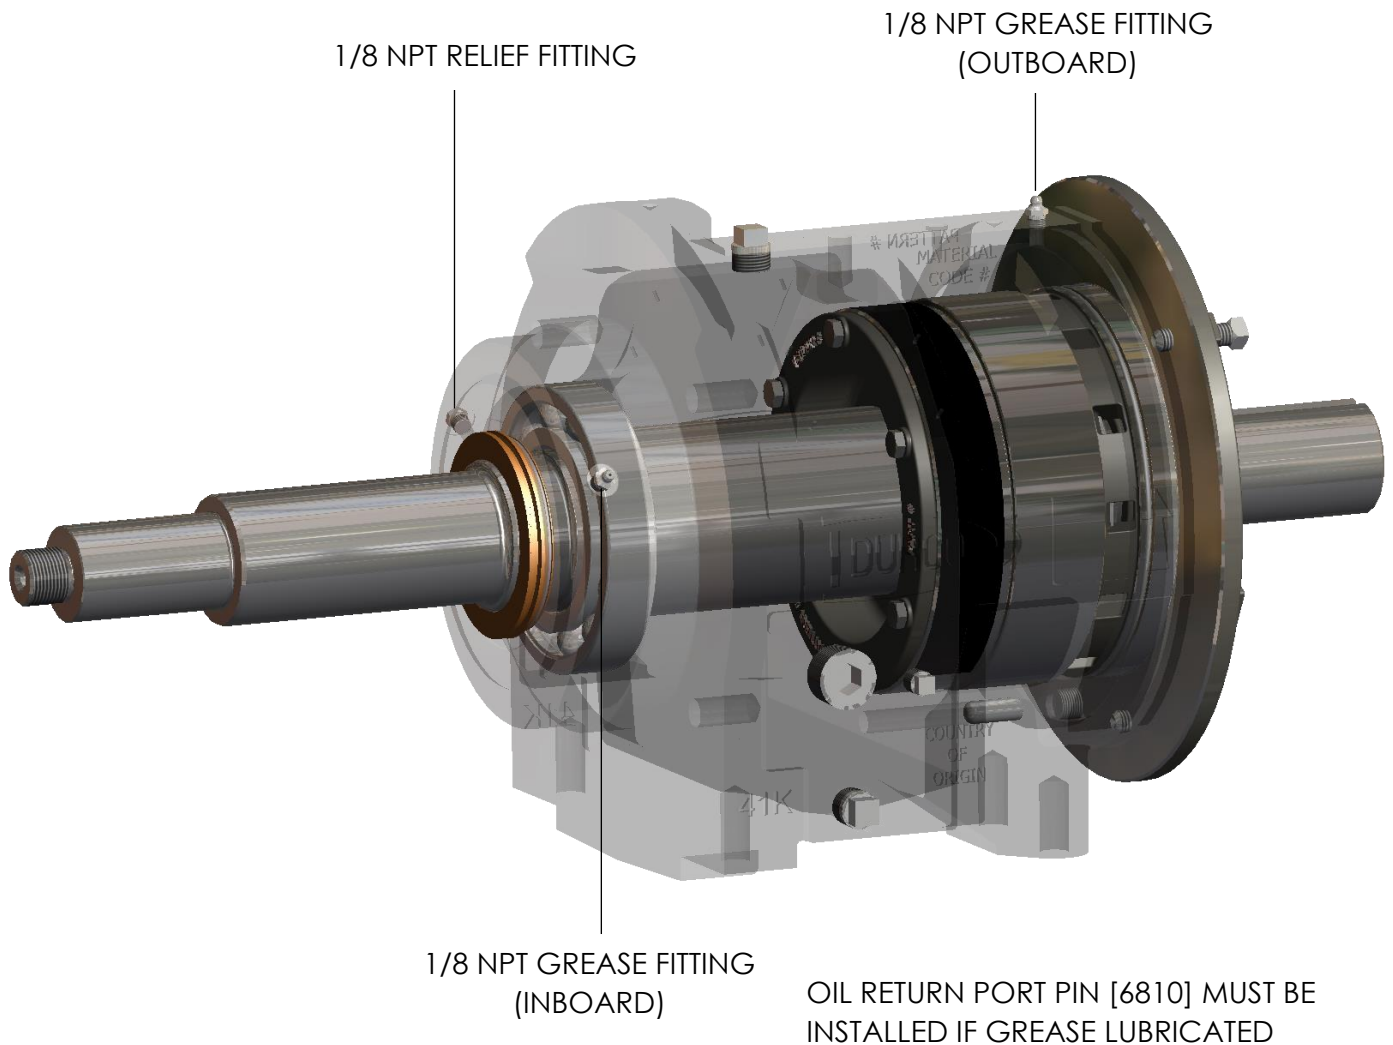

Figure 24: Re-greaseable Option
Pump bearings are packed with Mobil Polyrex™ EM grease prior to assembly. See Table 13: *Lubricant Intervals* for the recommend re-lubrication interval. For re-lubrication, a grease with the same type base (polyurea) and oil (mineral) should be used. To re-grease the radial bearing, add grease to the inboard grease fitting until grease exits the relief fitting on the opposite side of the bearing housing. To re-grease the thrust bearing, add the measured amount of grease specified in Table 14: *Grease Lubrication Amount*. Refer to Figure 24 for the grease fitting locations. After eight (8) re-lubrication intervals or three (3) years, it is recommended that the power end be disassembled and thoroughly cleaned, removing any used grease. See Section 8 for complete maintenance instructions.